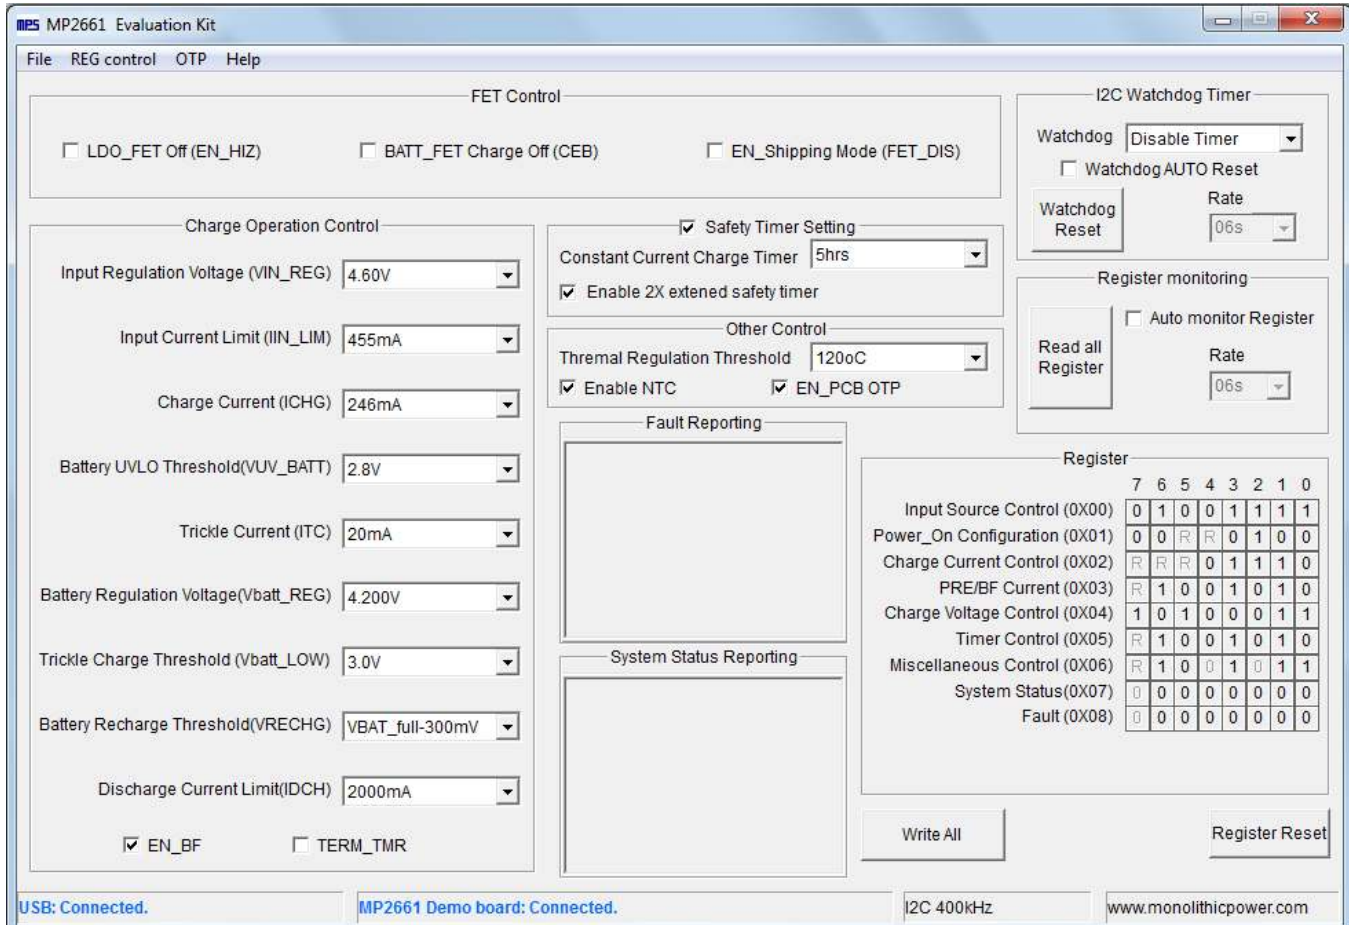

Figure 7: Appearance of USB and MP2661 EVB Board Show Connected
- If connection is successful, both the USB and MP2661 DEMO board statuses are "connected". (see Figure 7).
3. Click the "Read All Register" button to read the I²C register values, and the default values are displayed (see Figure 7).